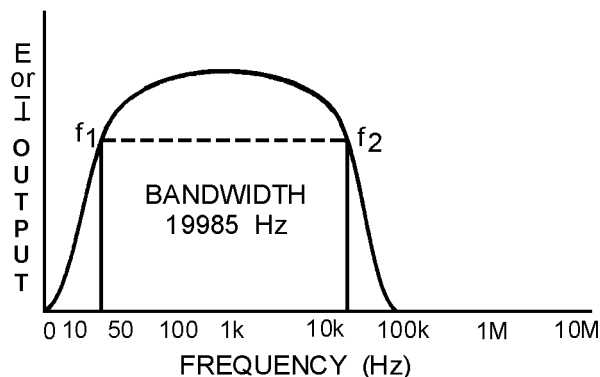

Figure 2-1.—Frequency response curve of audio amplifier.
Note the frequency-response curve shown in figure 2-1. This is the frequency-response curve for an audio amplifier as described in chapter 1. It is "flat" from 15 hertz (15 Hz) to 20 kilohertz (20 kHz).
The bandwidth represents the amount or "width" of frequencies, or the "band of frequencies," that the amplifier is MOST effective in amplifying. However, the bandwidth is NOT the same as the band of frequencies that is amplified. The bandwidth (BW) of an amplifier is the difference between the frequency limits of the amplifier. For example, the band of frequencies for an amplifier may be from 10 kilohertz (10 kHz) to 30 kilohertz (30 kHz). In this case, the bandwidth would be 20 kilohertz (20 kHz). As another example, if an amplifier is designed to amplify frequencies between 15 hertz (15 Hz) and 20 kilohertz (20 kHz), the bandwidth will be equal to 20 kilohertz minus 15 hertz or 19,985 hertz (19,985 Hz). This is shown in figure 2-1.
On figure 2-1, the two points marked  $f_1$  and  $f_2$  will enable you to determine the frequency-response limits of the amplifier. In this case, the limits are 15 hertz (15 Hz) and 20 kilohertz (20 kHz). You should now see how a frequency-response curve can enable you to determine the frequency limits and the bandwidth of an amplifier.
Figure 2-2 shows the frequency-response curves for four different amplifiers. View (A) is the same frequency-response curve as shown in figure 2-1. View (B) is the frequency-response curve of an amplifier that would also be classified as an audio amplifier, even though the curve is not "flat" from 15 hertz to 20 kilohertz and does not drop off sharply at the frequency limits. From the curve, you can see that the lower frequency limit of this amplifier ( $f_1$ ) is 100 hertz. The upper frequency limit ( $f_2$ ) is 10 kilohertz. Therefore, the bandwidth of this amplifier must be 10 kilohertz minus 100 hertz or 9900 hertz. Most amplifiers will have a frequency-response curve shaped like view (B) if nothing is done to modify the frequency-response characteristics of the circuit. (The factors that affect frequency response and the methods to modify the frequency response of an amplifier are covered a little later in this chapter.)